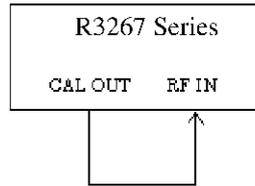

Figure 6-1 Setup of Modulation Accuracy Measurement for PDC, PHS and IS-136
1. Connect equipment as shown in Figure 6-1.